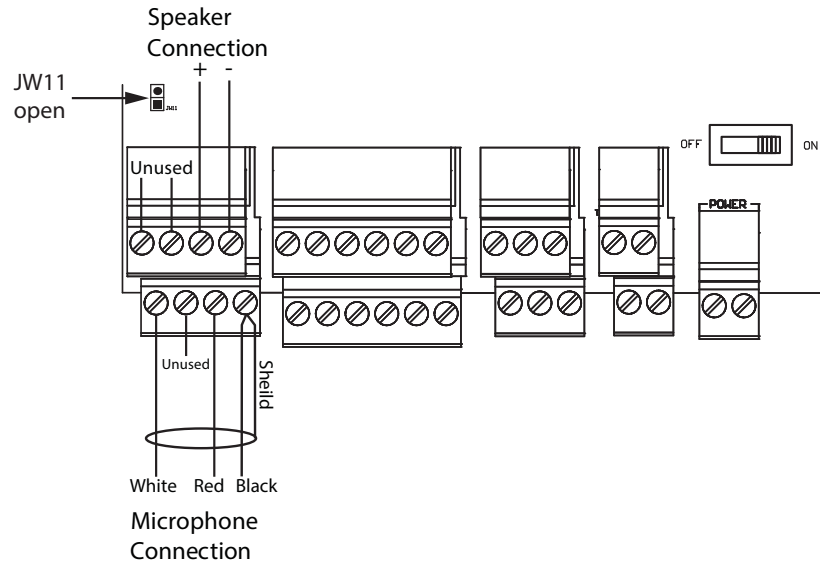

Figure 6 Microphone wiring
1. Connect the 4-pin connector on the wiring harness to the 4-pin terminal on the lobby controller board as shown in Figure 6.
2. If there is a jumper on JW11, remove it (see Figure 6).